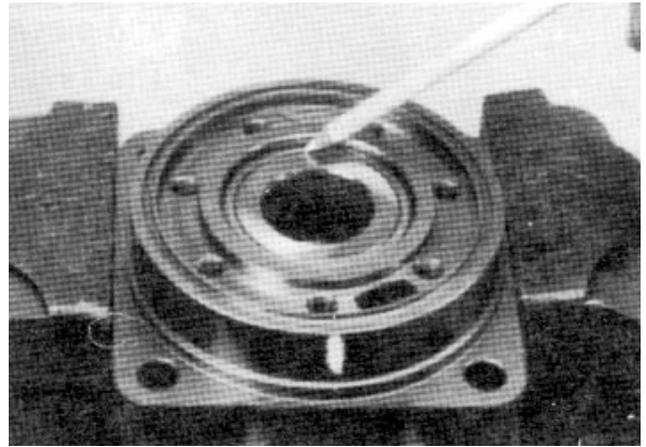
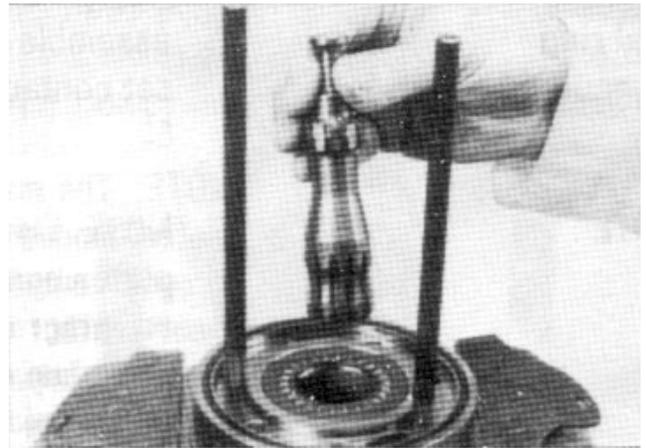

Figure 46
Figure 47
**Note:** Coupling shaft (11) should be approximately 0.10 inch (2.54 mm) below the housing wear plate surface to allow the assembly of thrust bearing (12). The coupling shaft must rotate smoothly on the thrust bearing (9) and thrust washer (8) (Fig. 46).
7. Make sure that a generous amount of clean corrosion resistant grease has been applied to the outer bearing (2). Install the coupling shaft (11) into housing (3), and seat shaft against the second thrust washer (8).
8. Install thrust bearing (12) onto the end of coupling shaft (11).
9. Apply a small amount of clean grease to a new seal ring (5) and insert it into the housing (3) seal ring groove.
**Note:** One or two alignment studs screwed finger tight into housing (18) bolt holes, approximately 180 degrees apart, will facilitate the assembly and alignment of components as required in the following procedures. The studs can be made by cutting off the heads of 3/8–24 UNF 2A bolts so they are 0.5 inch (12.7 mm) or longer than cap screw (14).
**Note:** Use any alignment marks put on the coupling shaft (11) and drive link (13) before disassembly to assemble the drive link splines in their original position in the mating coupling shaft splines.
10. Install drive link (13) with the long splined end down into the coupling shaft (11). Engage the drive link splines so they mesh with the coupling shaft splines (Fig. 47).
11. Assemble wear plate (18) over the drive link (13) and alignment studs onto the housing (3).
12. Apply a small amount of clean grease to a new seal ring (5) and assemble it into the seal ring groove on the wear plate side of the stator (21).
**Note:** The rotor set consists of the rotor (19), vanes (20), and stator (21). Rotor set components may become disassembled during service procedures.
**Note:** It may be necessary to turn one alignment stud out of the housing (3) temporarily to assemble rotor set over the drive link (13).
**Note:** The rotor set rotor counterbore side must be down against wear plate for drive link clearance and to maintain the original rotor–drive link spline contact. A rotor set without a counterbore and that was not etched before disassembly can be reinstalled using the drive link spline pattern on the rotor splines if apparent, to determine which side was down. The rotor set seal ring groove faces toward the wear plate (18).
13. Install assembled rotor set onto wear plate (18) with rotor (19) counterbore and seal ring side down. The splines should mesh with the drive link (13) splines.
14. If disassembled rotor (19), stator (21), and vanes (20) cannot be readily assembled by hand, assemble with the following procedures:
A. Place stator (21) onto wear plate (18) with seal ring (5) side down. Be sure the seal ring is in place.